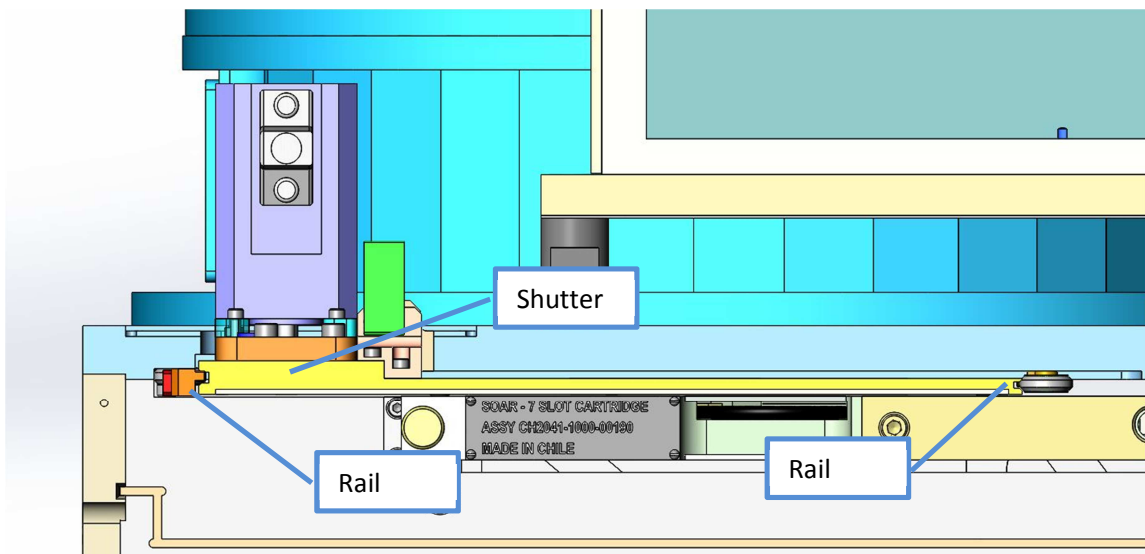

Figure 5
7. The shutter rides on two rails, shown in Figure 5